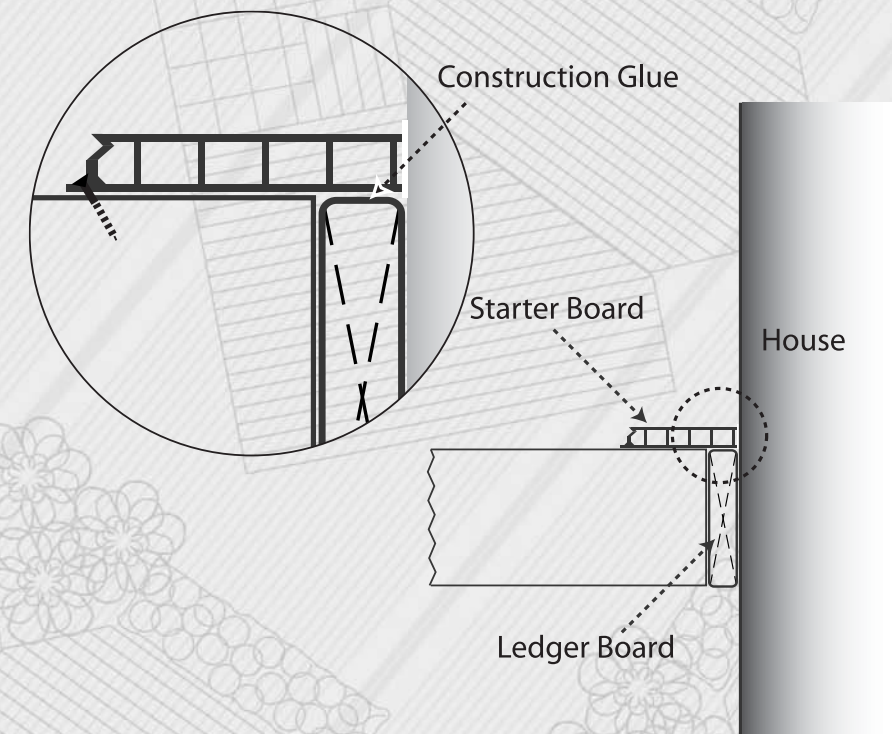

Figure 4: Starter Board Installation
3. Install the starter board by running a bead of construction glue along the ledger board (Figure 4). Using #8, 2 to 2-1/2" screws, fasten the starter board at each joist along the screw ledge. To avoid splitting, drill pilot holes within 1" of board ends before driving the screws.